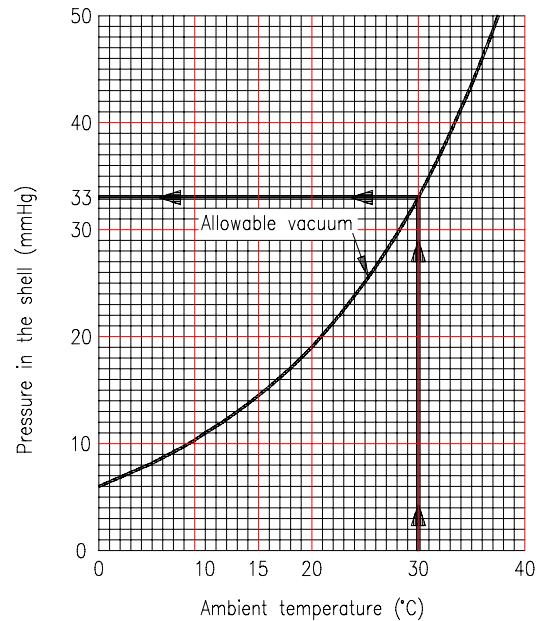

Fig. 4-1. Allowable Vacuum Curve
- ① The vacuum pressure has to be lower than the allowable vacuum value.
- ② As the pressure in the Machine is variable owing to the ambient temp., evaluate the measured pressure by using the curve. (Fig. 4-1)
- ③ When the ambient temperature is 30°C, 33mmHg is read as an allowable vacuum. If the pressure is above 33mmHg, perform air-purging.